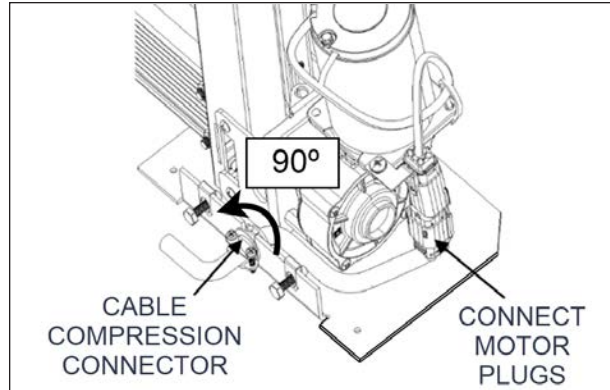

FIGURE 72: CONNECTOR AND PLUGS
11. Connect the cable to the motor harness and tighten the screws of the compression connector onto the base. The screws of the compression connector should be oriented horizontally. You might have to rotate the connector as shown on Figure 72.